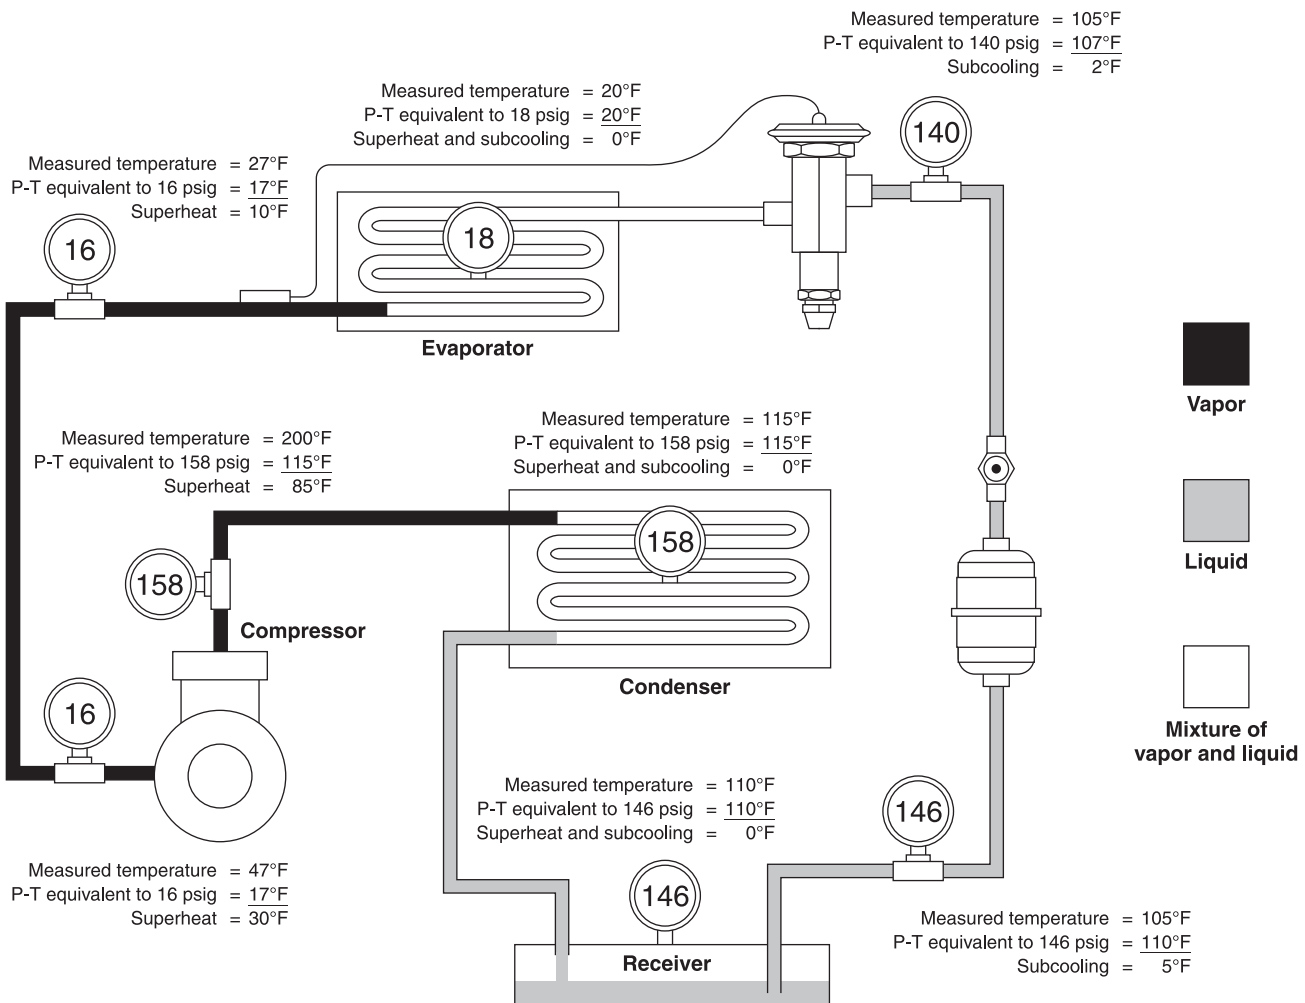

Figure 2. Example of actual pressure-temperature measurements in normally operating system using R-134a
Figure 2 shows some actual pressure-temperature measurements throughout a normally operating system using R-134a refrigerant. This may give a better insight into the condition of the refrigerant at the various points. The measured temperature at the evaporator inlet is 20°F. A gauge installed at this point indicates a pressure of 18 psig, and 18 psig on the P-T card indicates a temperature of 20°F—the same as was measured (see page 6). It might also be said that the superheat is zero and the subcooling is zero. Therefore, the refrigerant is at saturation—or, in other words, at the boiling point. This is what you should expect since, when refrigerant liquid and
*Subcooling* is a lowering of a temperature below the saturation point or boiling point. In the illustration shown in Figure 2, subcooling of 5°F and 2°F has been determined as illustrated at two points.
In the illustration shown in Figure 2, gauges have been located at points in the system where it is not always feasible to do so on an actual installation. Because of this, you often must make deductions and assumptions when dealing with an actual system.
Care must be taken to make a reasonable allowance for pressure drops within the system. Excessive pressure drops can be detected by applying the principles of the P-T relationship. As an example, in Figure 2, with gauges installed only at the suction and discharge of the compressor and reading as indicated, a significant pressure drop through the evaporator would be indicated by a high temperature of, say, 50°F measured at the evaporator inlet, which would correspond to a pressure at that point of approximately 45 psig. That would mean that there is a pressure drop of 29 psi from the evaporator inlet to the compressor inlet (45 minus 16). While this would be considered excessive on a single-circuit evaporator, it should be remembered that on multi-circuit evaporators there will be a pressure drop
through the refrigerant distributor assembly. A pressure drop through the distributor assembly may be in the vicinity of 25 psi for R-134a. This means that with the use of a refrigerant distributor, a measured temperature between the outlet of the thermostatic expansion valve and the inlet of the distributor of approximately 50°F would not be abnormal in the system illustrated in Figure 2.